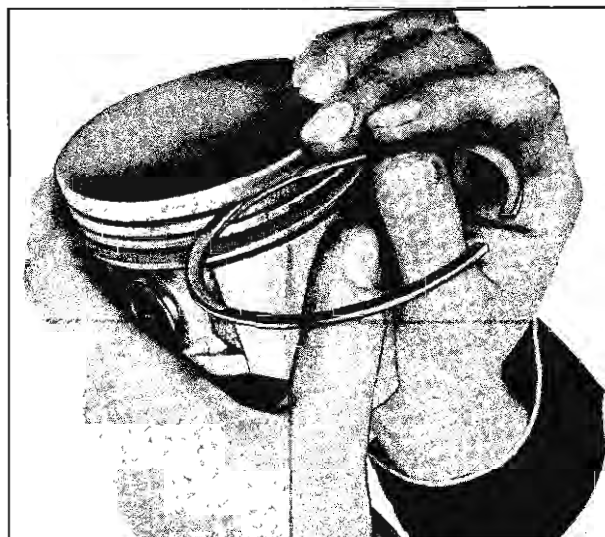

Fig. 95—Checking Groove Clearance
11. Proper clearance of the piston ring in its piston ring groove is very important in maintaining engine performance and in preventing excessive oil consumption. Therefore, when fitting new rings, the clearances between the top and bottom surfaces of the ring grooves should be inspected (fig. 95). Refer to *Engine Specifications* in Section 16 for correct clearances.